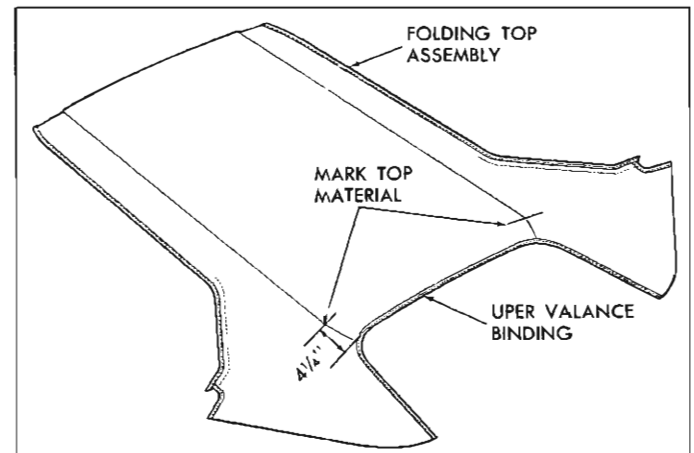

Fig. 69—Marking Top Material
25. Using a pencil, mark top material (mark should be approximately 1/2" in length) at deck seam 4 1/4" from edge of top material upper valance binding (fig. 69).